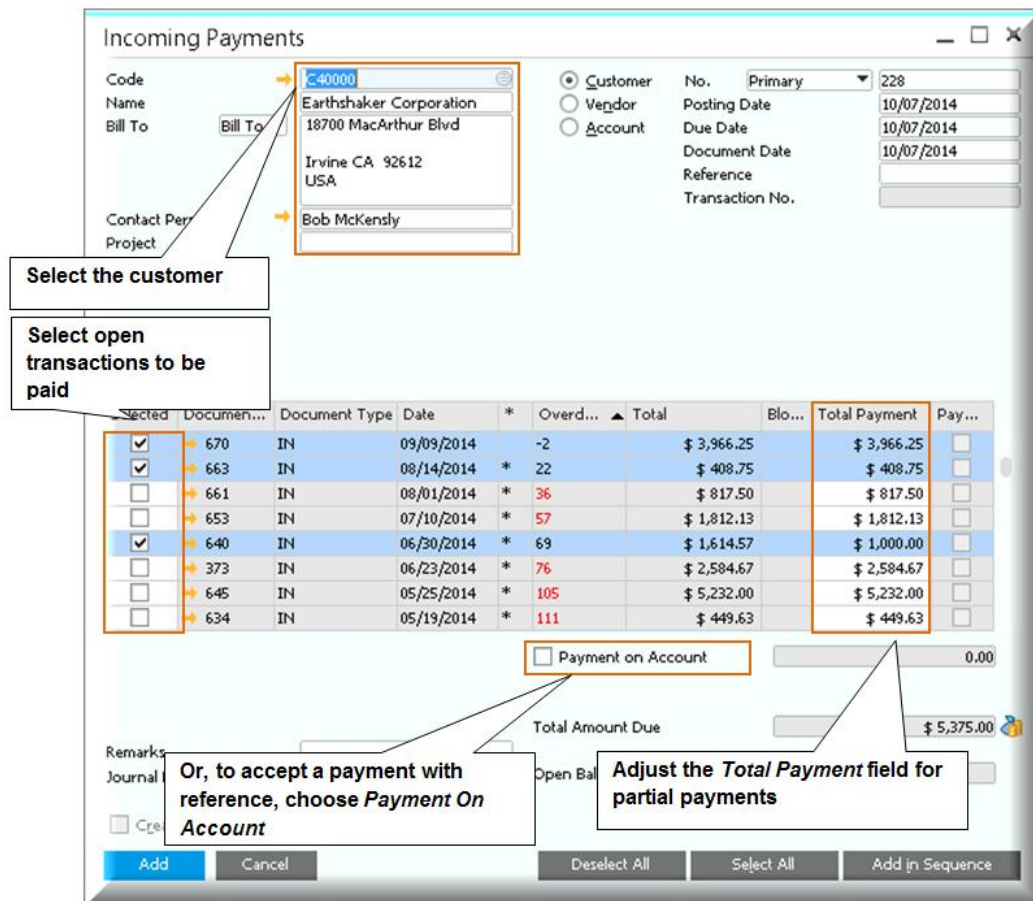

Figure 3-12: Incoming Payments window
1. Go to the *Banking* → *Incoming Payments* → *Incoming Payments* window shown in Figure 3-12